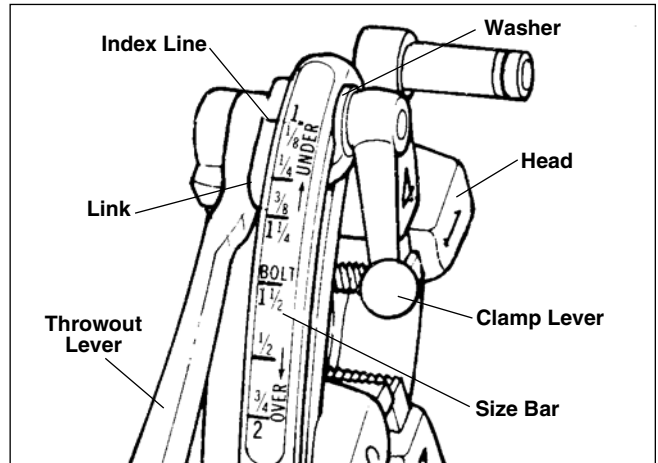

Figure 9 – Nos. 713 and 913 Quick-Opening Die Heads
7. a. Quick-Opening Die Head (*Figure 9*) – When thread is completed, raise throwout lever to open head position, retracting dies.
The Nos. 713 and 913 Die Heads (*Figure 9*) for left-hand threads require three sets of dies to thread pipe ranging from 1/4" through 2". One set of dies is required for each of the following pipe size ranges: (1/4" - 3/8"), (1/2" - 3/4") and (1" - 2").